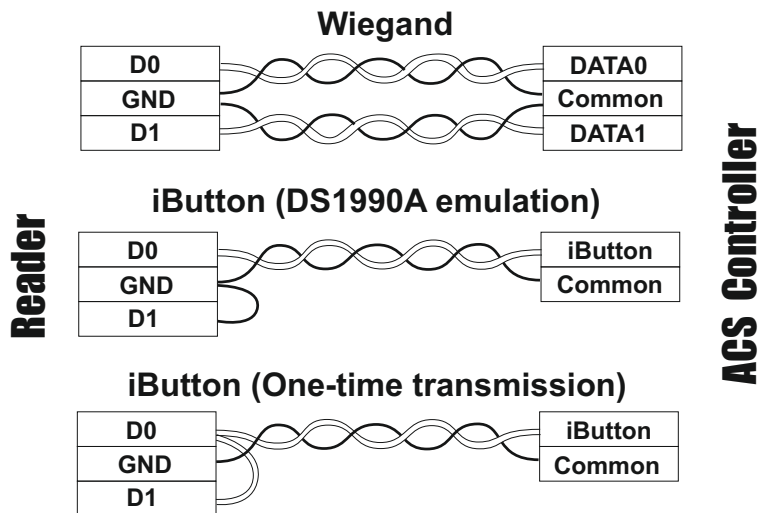

Figure 2. Choosing the transmission protocol.
- Connect wires to the reader per Figures 2 and 3. When power is properly connected, the red LED will light up;